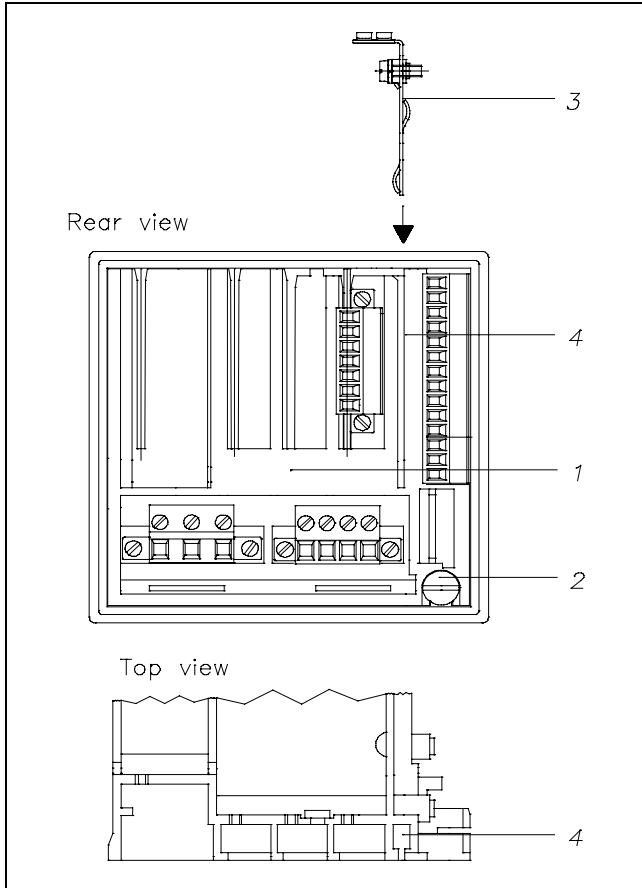

Fig. 18 Rear view
Install and connect shield terminal board (see fig. 18 and 19)
1. Loosen the backplane 1: turn twist screw 2 a quarter of a revolution anti-clockwise into position ①.
3. Fit in shield terminal board 3 (enclosed in the delivery) from above into the groove 4 of the backplane 1, as shown in fig. 18.
5. Lock the backplane 1: turn twist screw 2 a quarter of a revolution clockwise into position ②.